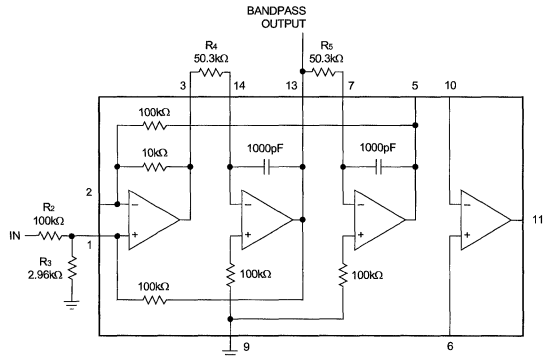

Figure 7. Bandpass Filter Example
4. This completes the filter design which is shown in Figure 7. To choose the nearest 1% standard value resistors either 49.9k or 51.1k Ohms could be used; likewise one value of 49.9k and one of 51.1k could be used giving the geometric mean of  $\sqrt{R_4R_5} = \sqrt{49.9k \times 51.1k} = 50.5k$  which is even closer. But due to the filter  $\pm 5\%$  frequency tolerance, it may be better to hold  $R_4$  constant while varying  $R_5$  to tune it exactly.